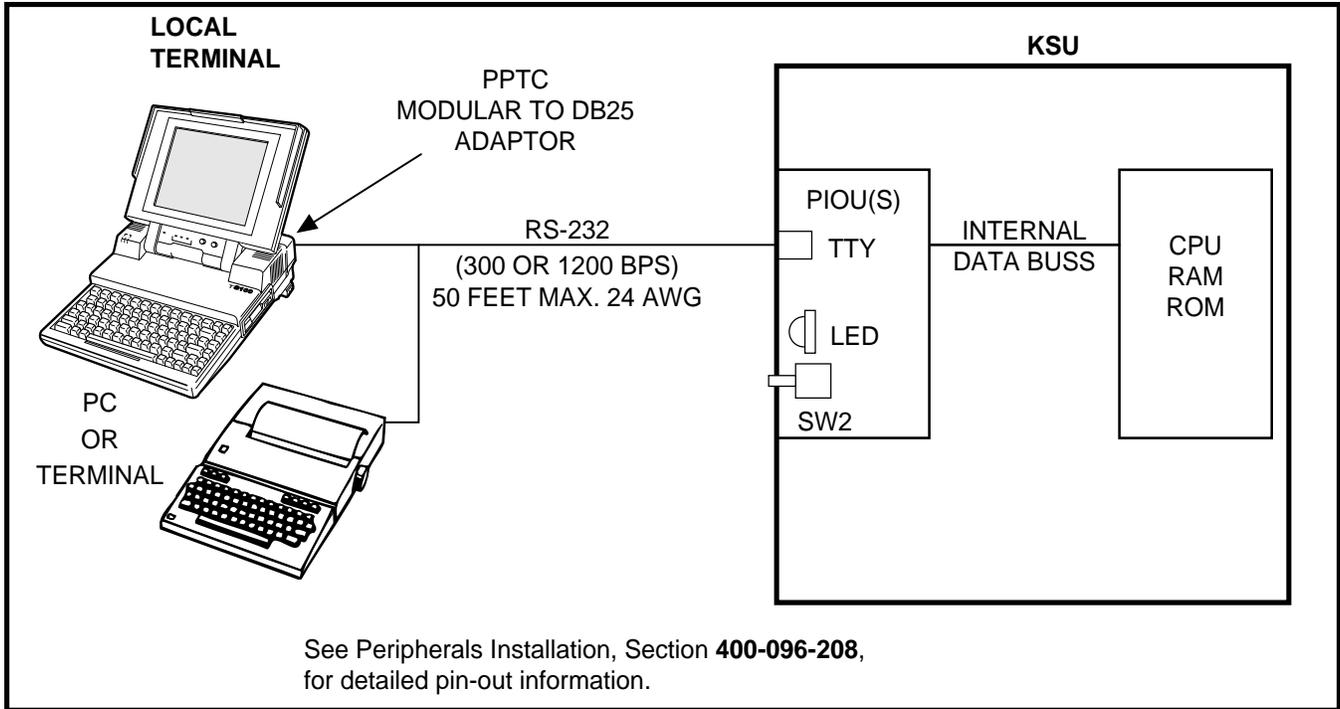

FIGURE 2
5.02 The local terminal must have an EIA RS-232 interface, communicate in ASCII code (seven bit word length/one stop bit/even parity) at 300 or 1200 bps, have a standard typewriter-type keyboard, and display data via a CRT display or printer. A personal computer capable of emulating the described terminal may also be used (see Figure 2 and Paragraph **15**).
5.11 Refer to Figure 2 and verify that the local terminal is connected and set-up as follows: